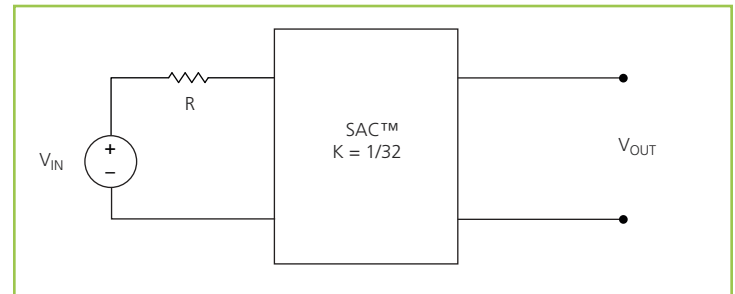

Figure 15 — K = 1/32 Sine Amplitude Converter™ with series input resistor
The use of DC voltage transformation provides additional interesting attributes. Assuming that R\_OUT = 0 Ω and I\_Q = 0 A, Eq. (3) now becomes Eq. (1) and is essentially load independent, resistor R is now placed in series with V\_IN as shown in Figure 15.
Assuming that  $R = 1 \Omega$ , the effective R as seen from the secondary side is 0.98 m $\Omega$ , with  $K = 1/32$  as shown in Figure 15.